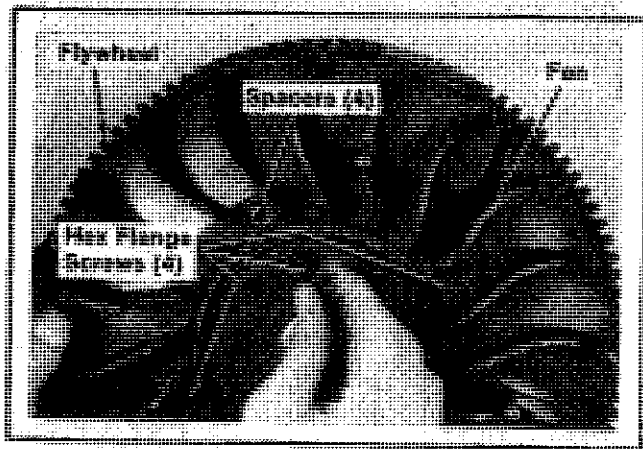

Figure 11-36. Installing Fan To Flywheel.
1. Install the spacers, fan, and hex flange screws. Refer to Figure 11-36.